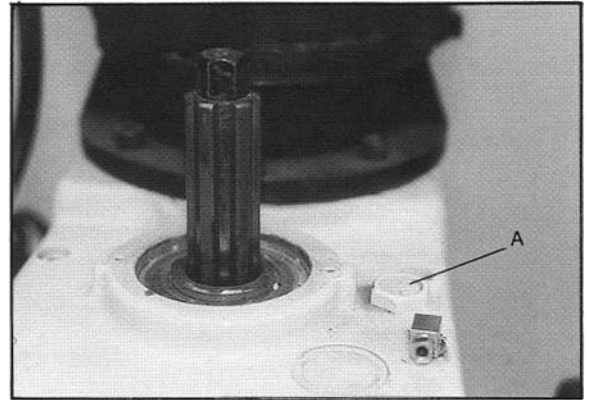

Figure 18
7. Remove the filler plug (A, Figure 18).
10. Pour one (1) gallon of new lubricant (SHC-634 Oil Heavy Medium) through the filler hole. **Caution: Use of any other type of lubricant other than that specified may cause damage to the drill press.**